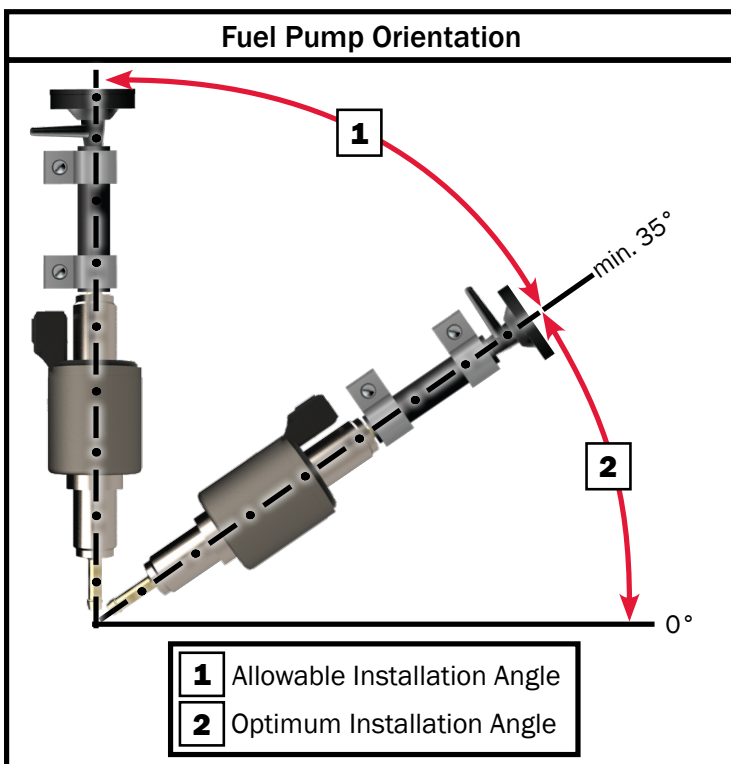

Figure 67
- The outlet of the fuel pump is required to be installed upwards. The angle should be between 15°-35°. See Figure 67 for fuel pump orientation.